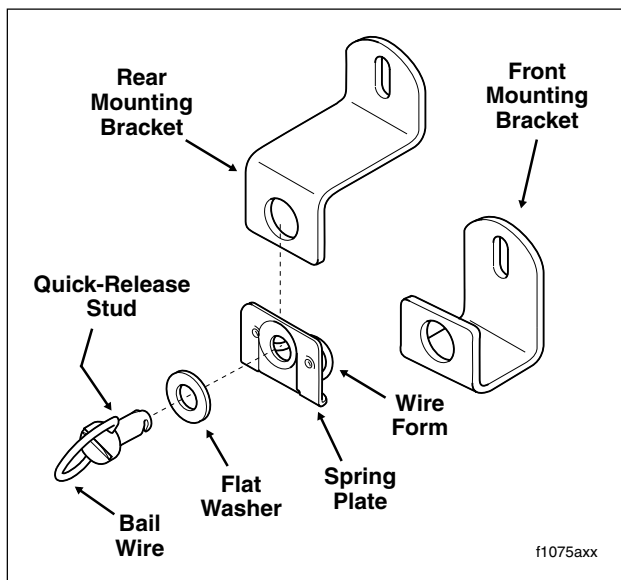

Figure 2-132. Saddlebag Quick-Release Fasteners
2. Grasp bail wire inside saddlebag and rotate each stud a full 1/4 turn in a counter-clockwise direction. Remove bail head studs with flat washers. See Figure 2-132.